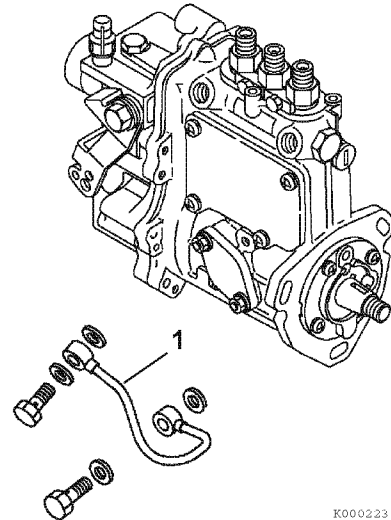

Figure 7-25
11. Reinstall the lube oil line (Figure 7-25, (1)).